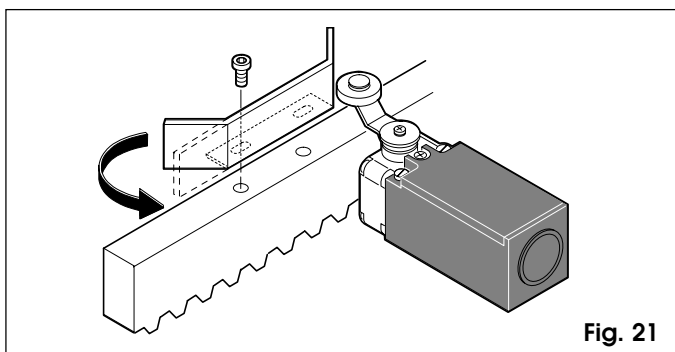

Fig. 21
The 884 operator has an electro-mechanical limit-switch with roller and lever, which controls gate movement to stop when a profiled plate, secured on the top of the rack, activates the lever until the microswitch is tripped (fig. 21).
- Note: The plates are designed for securing with screws (fig. 21) if necessary.
- a) The plate must activate the limit-switch on the profiled part as shown in figure 21.
- b) To prevent the plate from going beyond the limit-switch (long braking), we advise you to straighten the final profiled part as shown in fig.21.